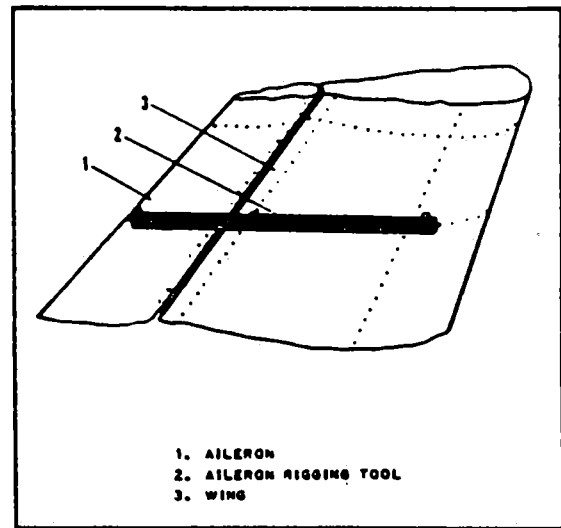

Figure 5-4. Installation of Aileron Rigging Tool
1. Place a modified straightedge, as shown in Figure 5-4, against the underside of the wing next to and outboard of the row of rivets at station 169 with the aft spacer even with the trailing edge of the aileron. (Do not place tool on rivets.) (This tool may be fabricated from dimensions given in Figure 5-18.)